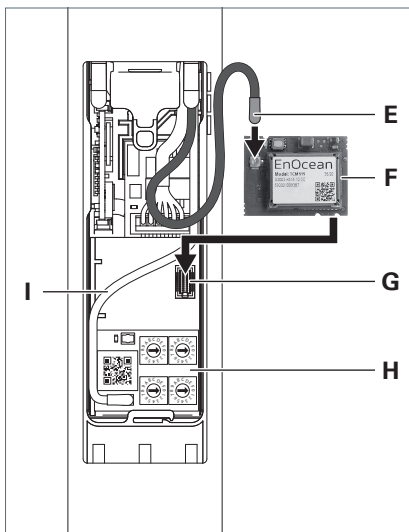

Fig. 3: Install the TALK MODUL EnOcean wireless module.
- ▶ Connect the grey aerial wire **E** to the pushbutton connection on the PCB **F**, see Fig. 3.